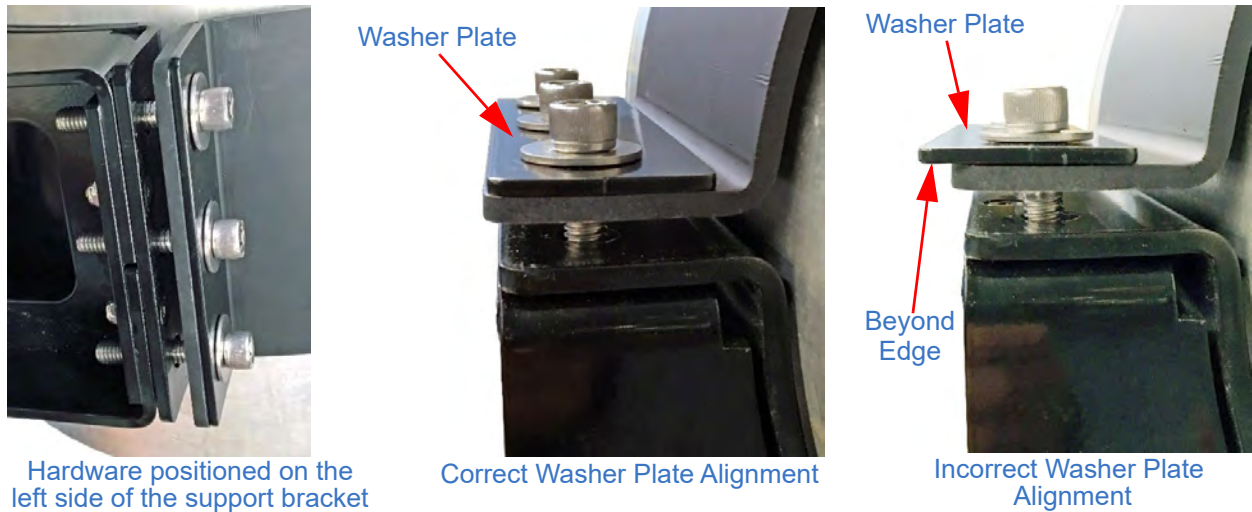

Figure 5-15 Hardware Positioning and Alignment
- c. On the left side of the external support bracket, align the hardware from outside in as follows (Figure 5-15):
- d. The washer plate should be aligned so that its outside edge is flush with the outside edge of the support bracket clamp (Figure 5-15). If the outside edge sticks out beyond the edge of the support bracket clamp (Figure 5-15), it is installed backwards and needs flipped.